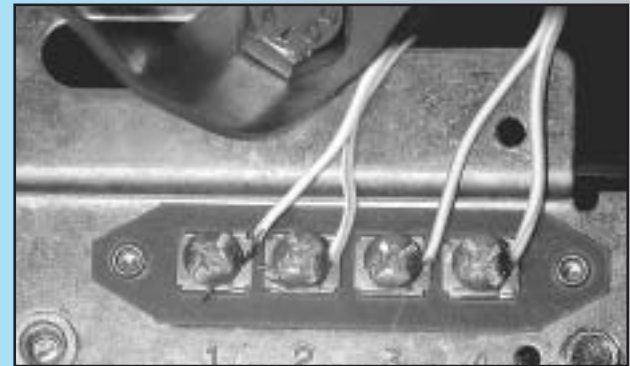

Fig. 4-2
3. Attach wires to terminals. Fig. 4-2, Fig. 4-3.